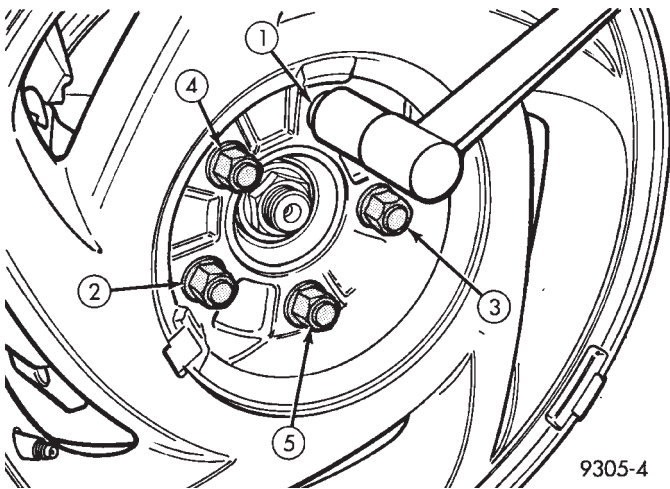

Fig. 24 Tightening Wheel Nuts
(9) Install the wheel and tire assembly.
(10) Tighten the wheel mounting stud nuts in proper sequence (Fig. 24) until all nuts are torqued to half specification. Then repeat the tightening sequence to the full specified torque of 129 N•m (95 ft. lbs.).